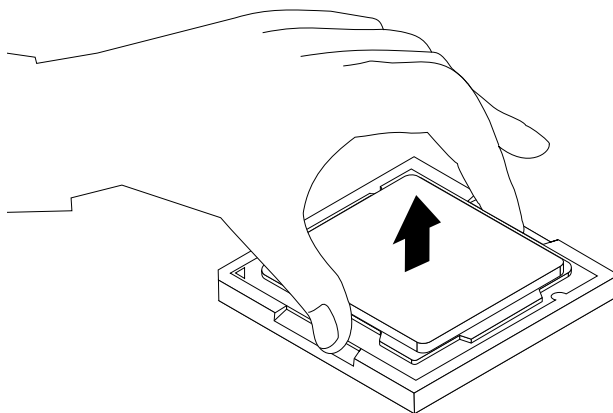

Figure 57. Removing the microprocessor
5. Lift the microprocessor straight up and out of the microprocessor socket, as shown in Figure 57 “Removing the microprocessor” on page 121.